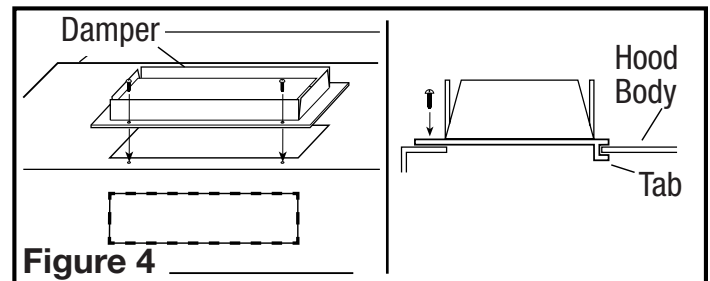

Figure 4
6. Install the damper assembly to the hood by sliding the tabbed section of the duct collar under the hood body and securing with the two provided screws. Using approved duct tape, tape around the collar to seal off any air leaks (**Figure 4**).